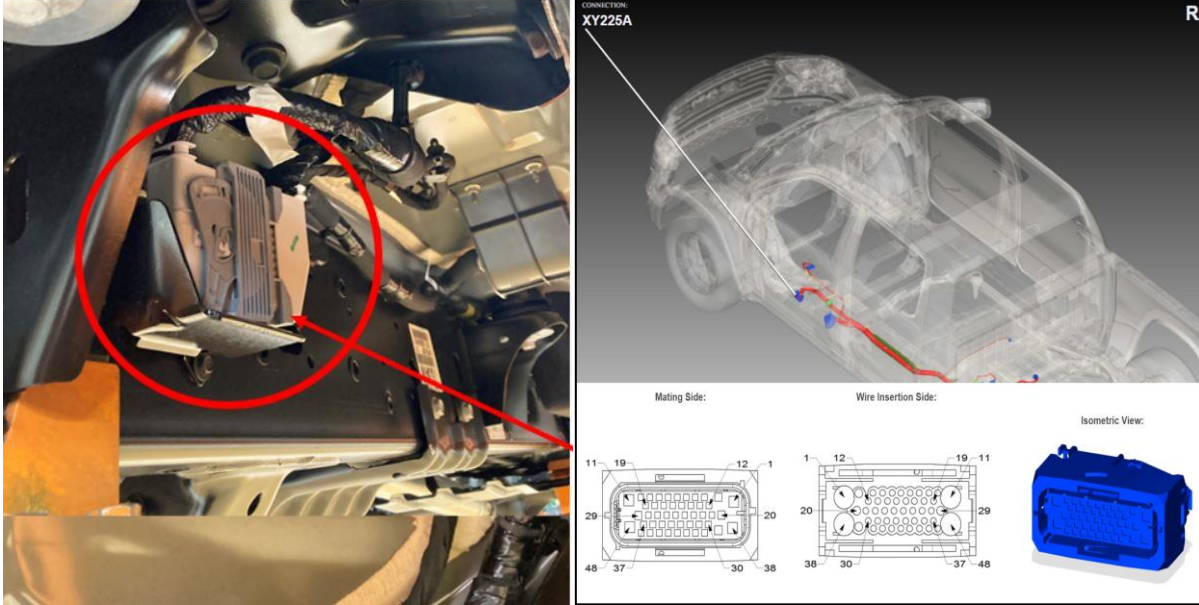

Figure 1.
1. Inspect connector XY225 (see Figure 1.) for any loose connections, water intrusion/corrosion, pushed out terminals, and repair as necessary.